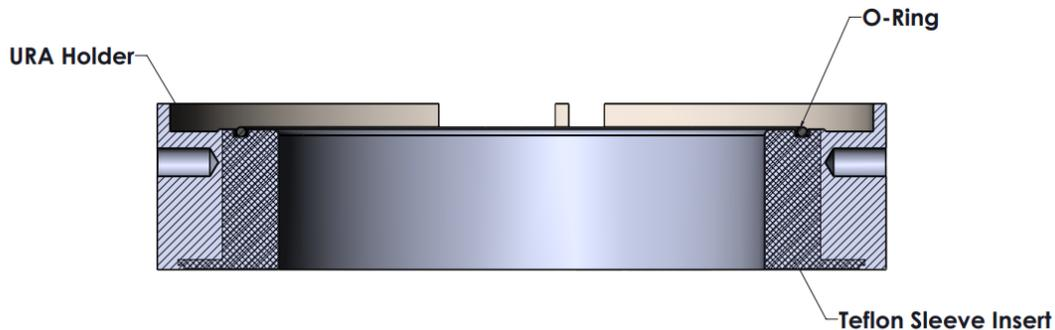

Figure 2. URA Holder with Teflon Sleeve Insert Cross Section
- j) For "pre-torque" type URAP holders, fasten the assembly together by reinstalling the pre-assembly capscrews as shown in figure 2 finger tight before torquing. 12 point high strength capscrews are supplied with the assembly, **DO NOT SUBSTITUTE.** A 12 point, deep length, thin wall socket is required for correct torquing.
- k) Using a torque wrench, develop the required torque incrementally in a minimum of four (4) steps in a crisscross pattern. The initial torque should be no more than 30% of the final required torque listed in table #1. After following this sequence, a final tightening should be performed capscrew-to-capscrew to ensure that all bolts have been evenly torqued